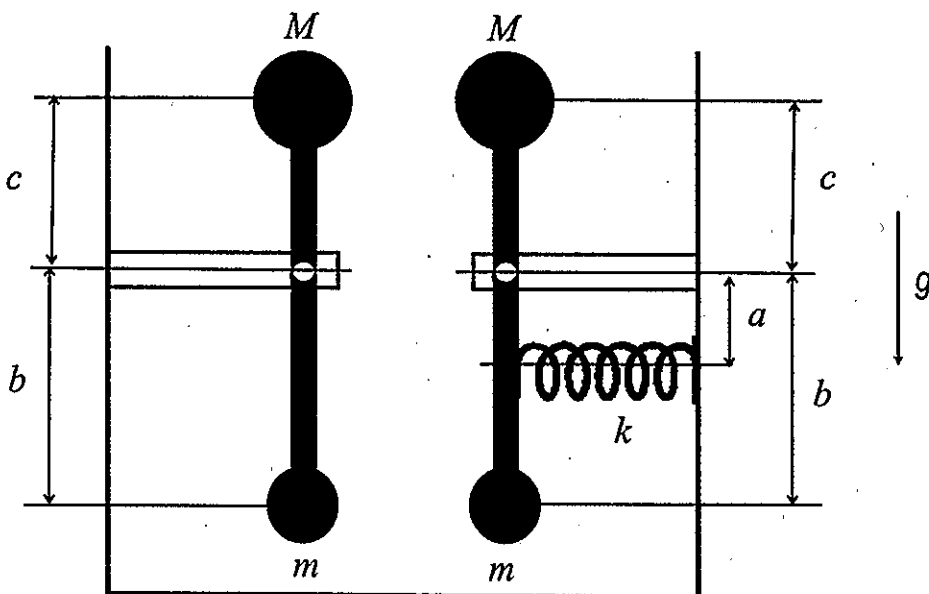

Figure 2-1
I. As shown in Figure 2-1, consider two pendulums where each of them is composed of a massless rod and two masses  $M$  and  $m$ . One pendulum has a spring connected to the wall with a spring constant  $k$ . The lengths from the rotation center of pendulums to each mass and to the spring are shown in the figure. Answer the following questions under the assumptions of small amplitude of vibration with the neutral position of the condition in Figure 2-1, and gravitational acceleration  $g$ .
- (1) Obtain the natural frequency of the pendulum without the spring, assuming  $Mc < mb$ .
- (2) Obtain the natural frequency of the pendulum with the spring when vibrating.
- (3) Vibration may not occur if the spring constant  $k$  is small. Obtain the condition at this case, assuming  $Mc > mb$ .